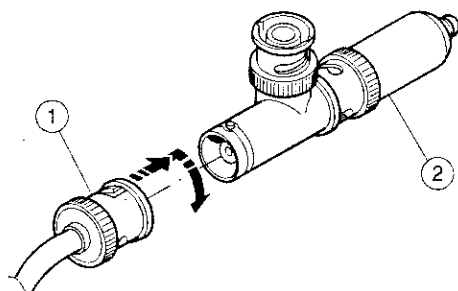

Fig. 1
① In-Line cable
① Connect the branch cable ① to the BNC-T connector ②. (Fig. 1)